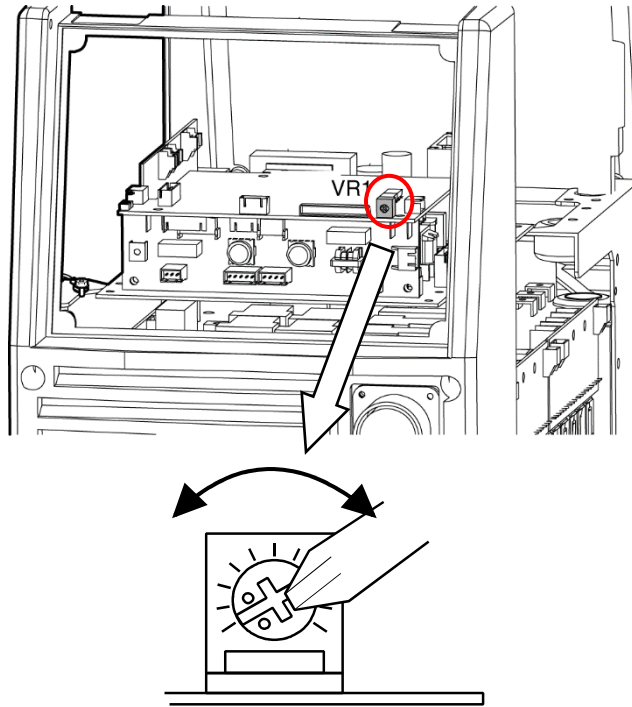

Figure 5-3 VRD ON/OFF Step D
- d) Turning the VRD ON/OFF (see Figure 5-3).